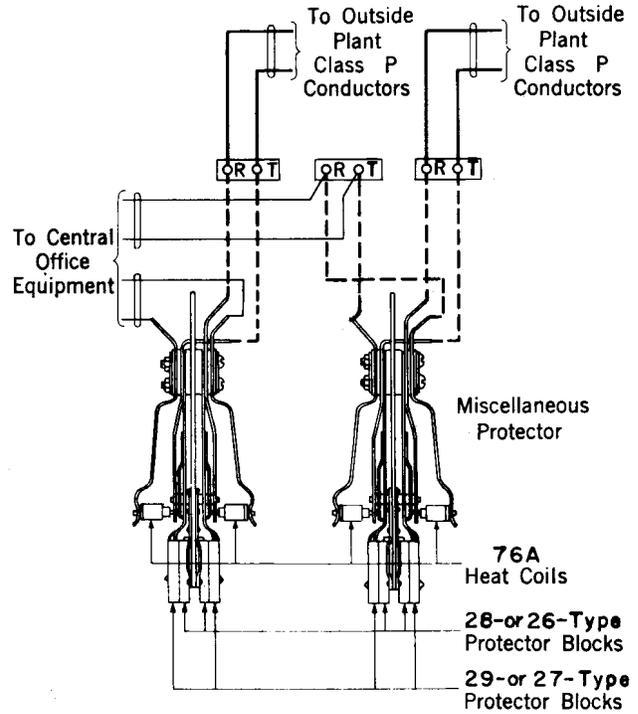

Fig. 12—Class P to Class P Conductors—Having Central Office and Auxiliary Line Circuits
6.20 Where it is necessary to connect through an auxiliary central office circuit, such as a long line supervisory circuit, the conductors shall be connected and protection provided as shown in Fig. 12.